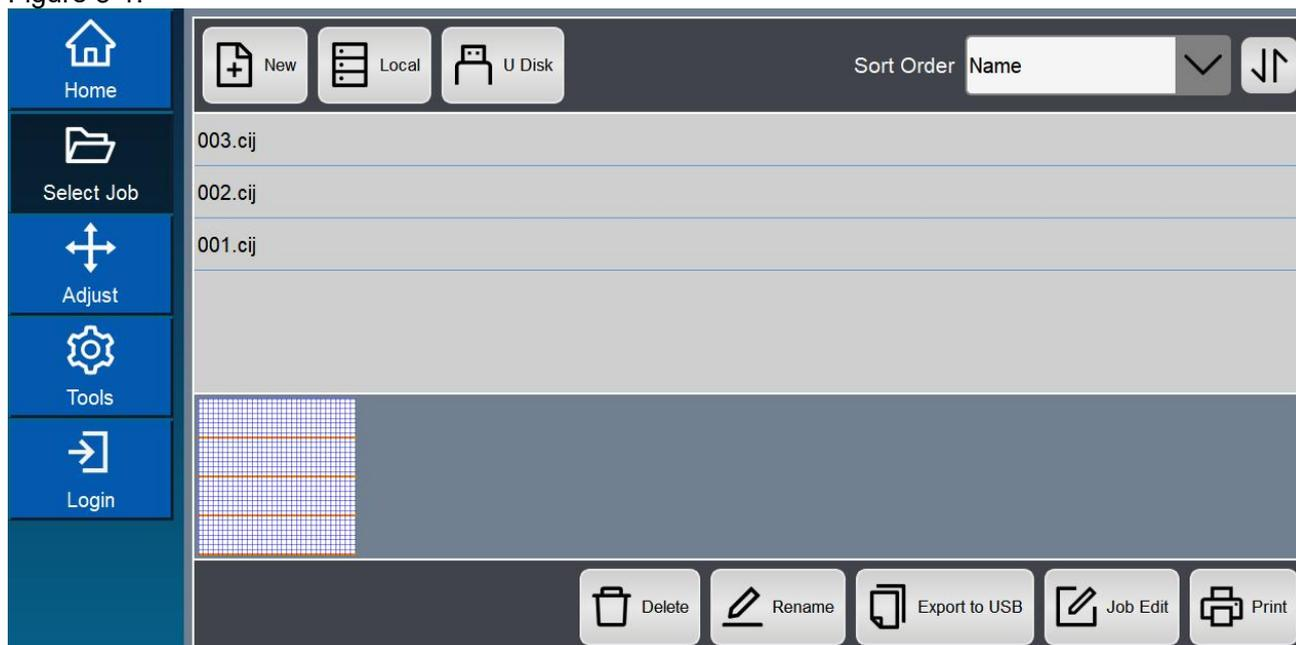

Figure 3-1 File processing interface
① Click the button  on the main interface to enter the file processing interface. As shown in Figure 3-1.